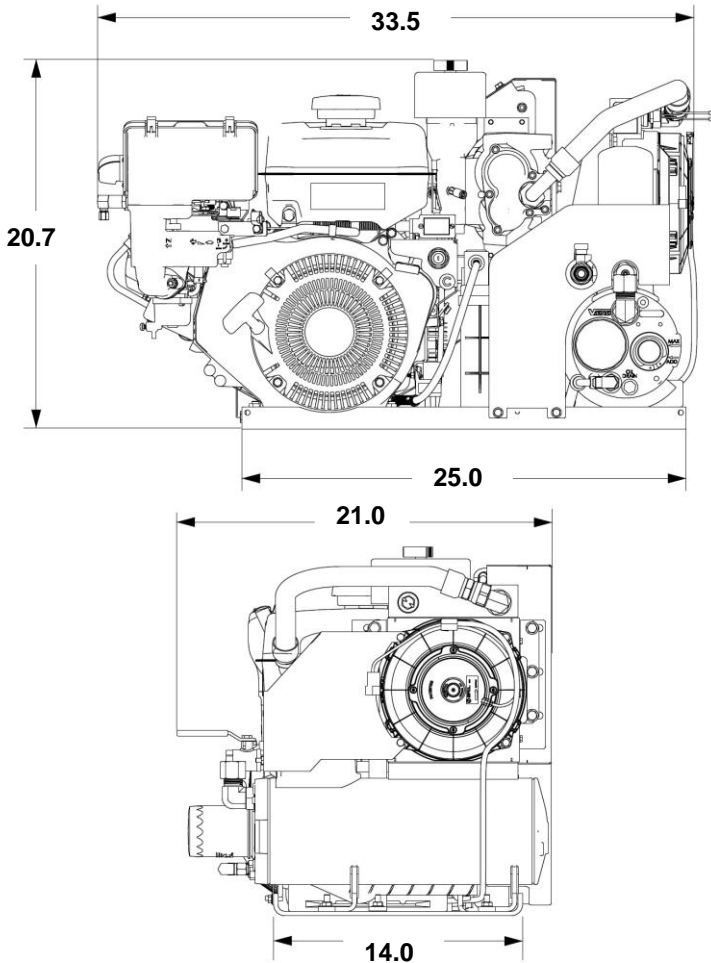

Figure 11 – External dimensions
- Locate a suitable mounting position for the Gas Drive. Place the unit and check for clearances to any other objects (Figure 11).